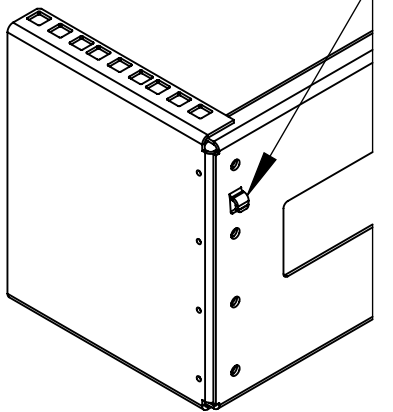
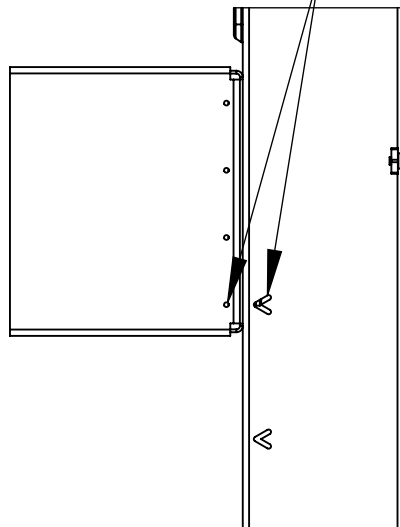
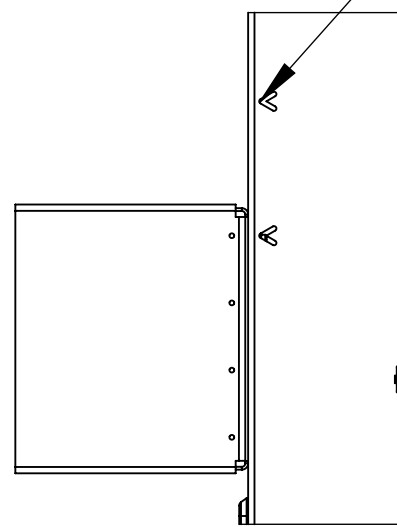
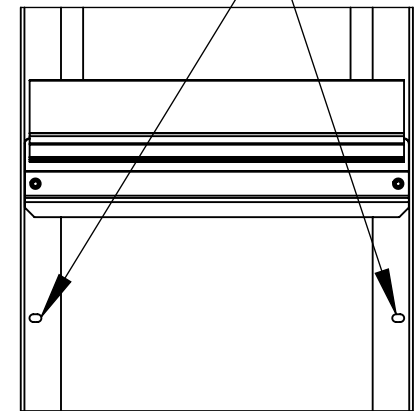

Fig. 7
Fig. 8
Fig. 9
Fig. 10
1. Using the hooks on the backside of the Equipment Rails (Fig. 7), hang the Equipment Rails onto the Rear Chassis in one of the approved mounting locations (Fig. 8).
2. Fasten the Equipment Rails to the Rear Chassis using the (8) M6 Hex Bolts and Nuts, with a 10mm Socket Driver and 10mm Wrench.
3. If the Equipment Rails are installed in one of the lower approved mounting locations (Fig. 9), then the Cabinet Shell Air Dams must be reinstated in the lower mounting location (Fig. 10) to ensure proper functionality.